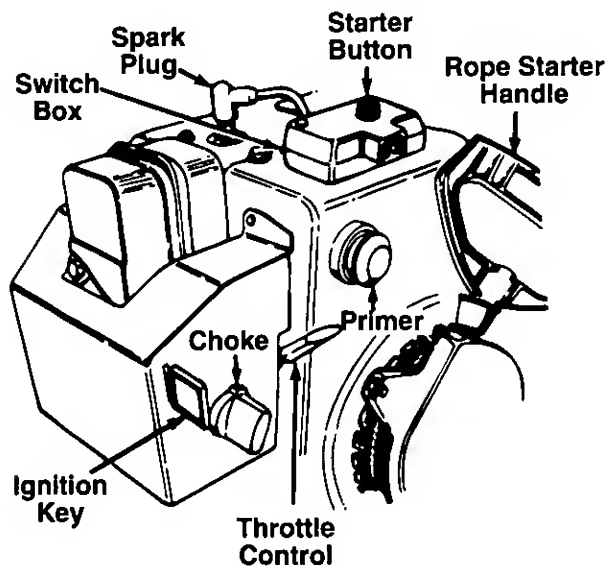

FIGURE 13.—Model 646F Shown
## THROTTLE CONTROL (See figure 13)
## SAFETY IGNITION SWITCH (See figure 13)
3. Move throttle control up to FAST position. Insert ignition key into slot. See figure 13. Be certain it snaps into place. **Do not** turn key.
6. Push primer button two or three times. See figure 13.
7. **Recoil Start:** Grasp starter handle (see figure 13) and pull rope out slowly, until it pulls slightly harder. Let rope rewind slowly. Pull starter handle rapidly. Do not allow handle to snap back. Allow it to rewind slowly while keeping a firm hold on the starter handle.